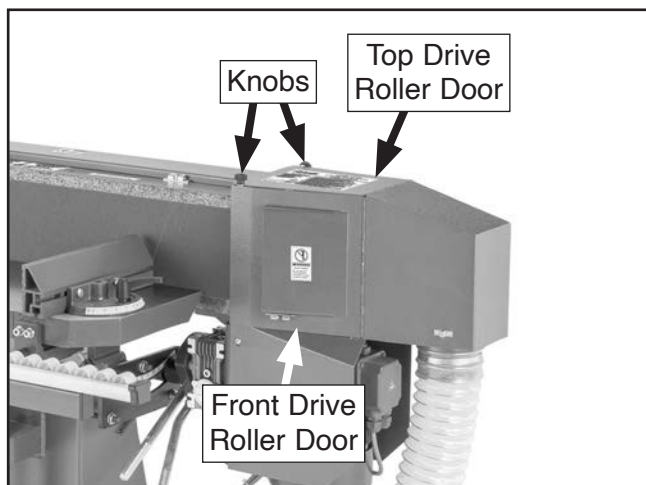

Figure 38. Drive roller doors and knobs.
6. Loosen (2) knobs shown in **Figure 38**, then open drive roller doors.